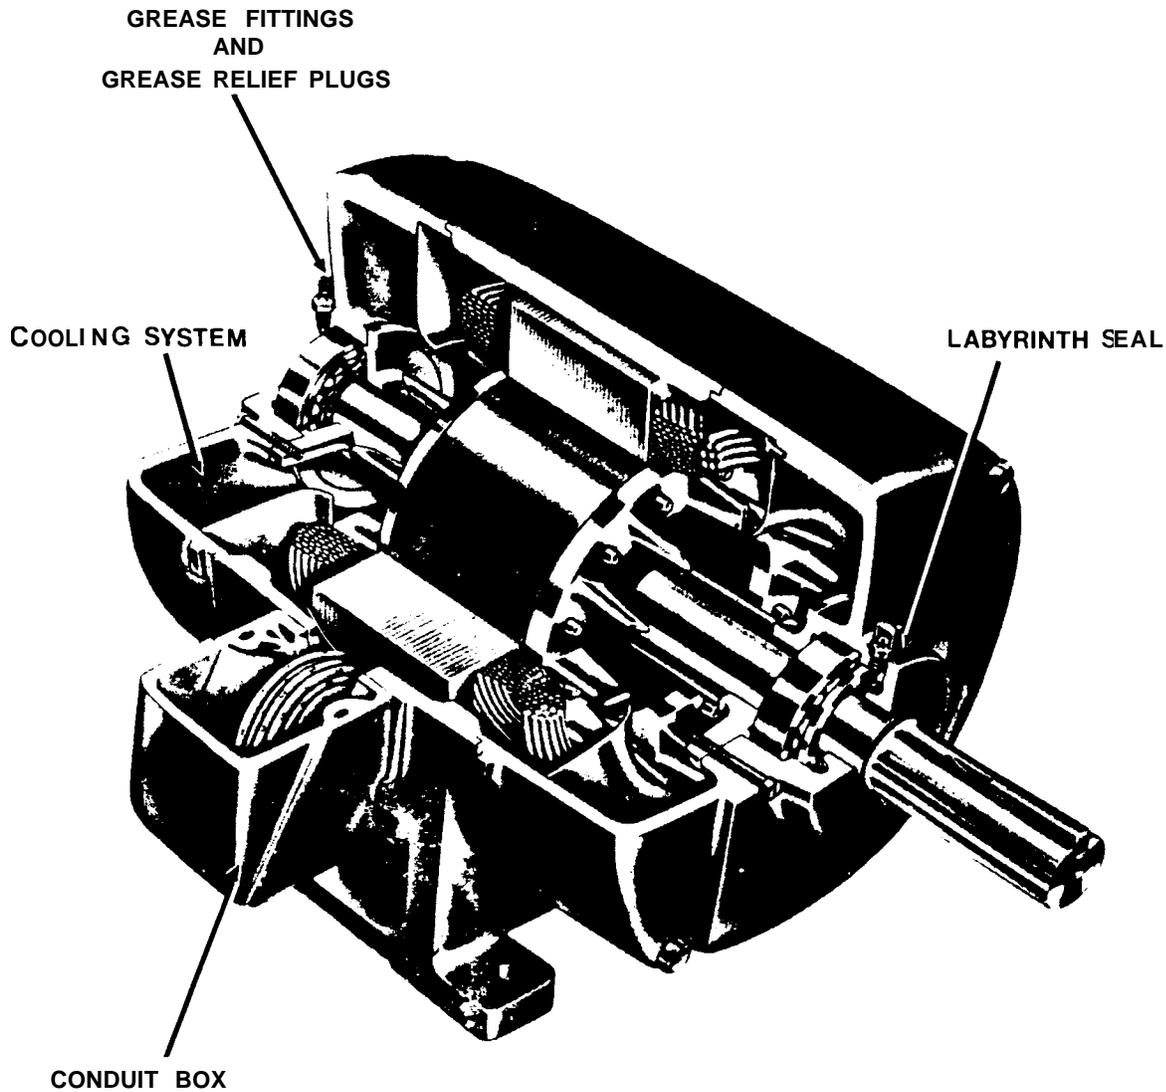

Figure 4-1. Cutaway view of squirrel-cage induction motor.
a. Squirrel-cage induction unit. This AC motor is the most prevalent in use at military installations (fig 4-1). The squirrel-cage motor is the most rugged and the least expensive of all types of induction motors. The squirrel-cage motor is nearly a constant speed machine. Typically its speed varies 0-5 percent from synchronous speed from no load to full load. The basic design of the rotor can be modified to provide a limited degree of external speed control.